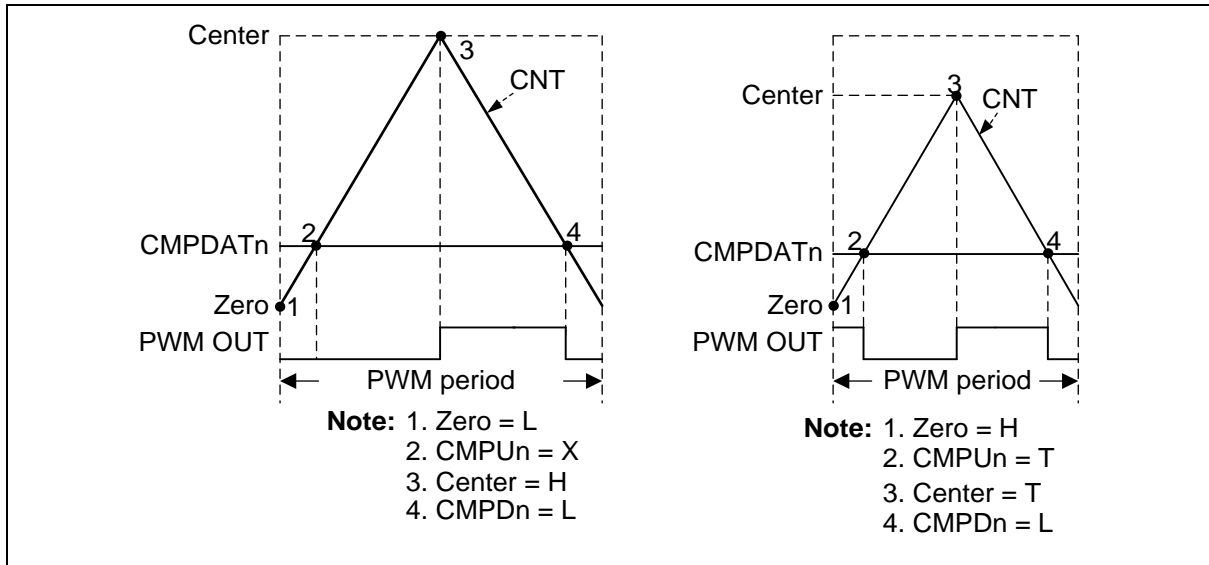

Figure 6.11-14 BPWM Pulse Generation (Left: Asymmetric Pulse, Right: Variety Pulse)
Each event point can decide BPWM waveform to do nothing (X), set Low (L), set High (H) or toggle (T) by setting BPWM_WGCTL0 and BPWM_WGCTL1 registers. Using these points can easily generate asymmetric BPWM pulse or variant waveform as shown in Figure 6.11-14. In the figure, there is a comparator n to generate BPWM pulse, where n denotes channel number 0 to 5. CMPU denotes CNT is equal to CMPDAT when counting up, and CMPD denotes CNT is equal to CMPDAT when counting down.